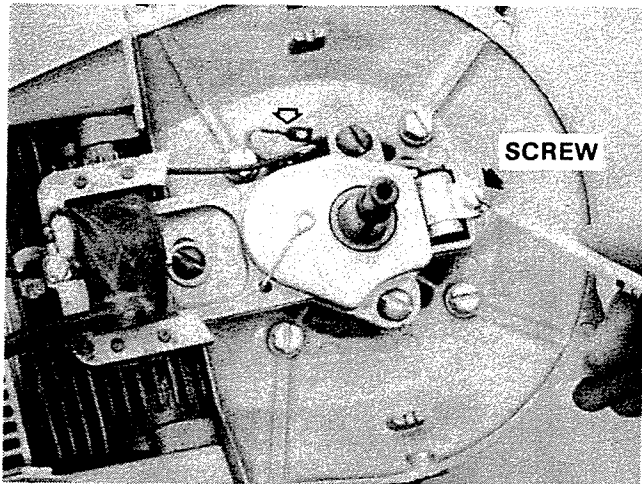

Figure 13. Installing Condenser.
1. Install condenser on stator plate and secure with screw. Figure 13.
2. Connect condenser lead wire to terminal block of breaker point. Figure 13.